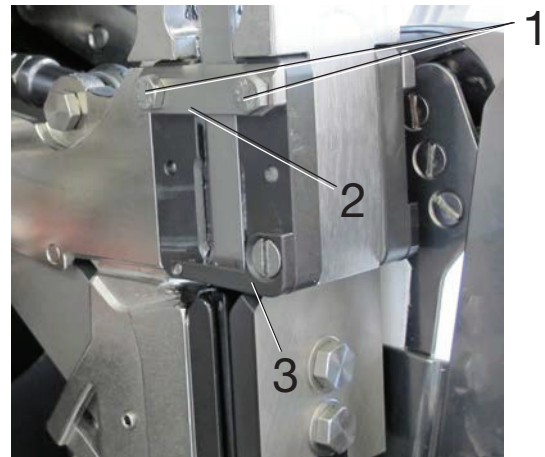

Fig. 7-6 1 Fixing screws
- Loosen the bracket (3, Fig. 7-6) and fold it back.
- Loosen the bridge (2, Fig. 7-6) and fold it down: To do this, loosen the rear fixing screw (1, Fig. 7-6), unscrew and remove the front fixing screw (1, Fig. 7-6).